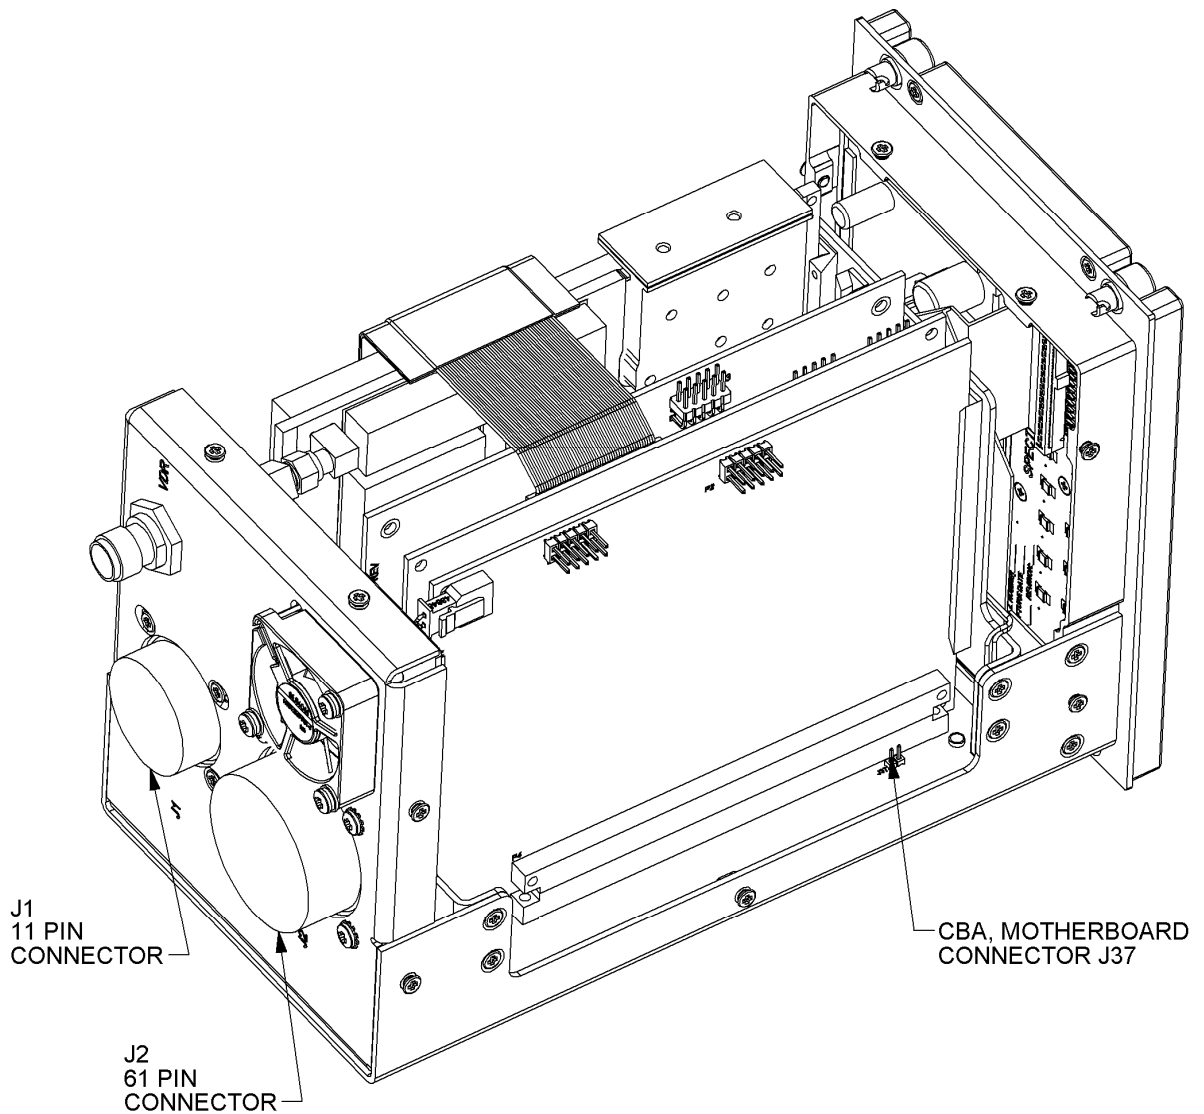
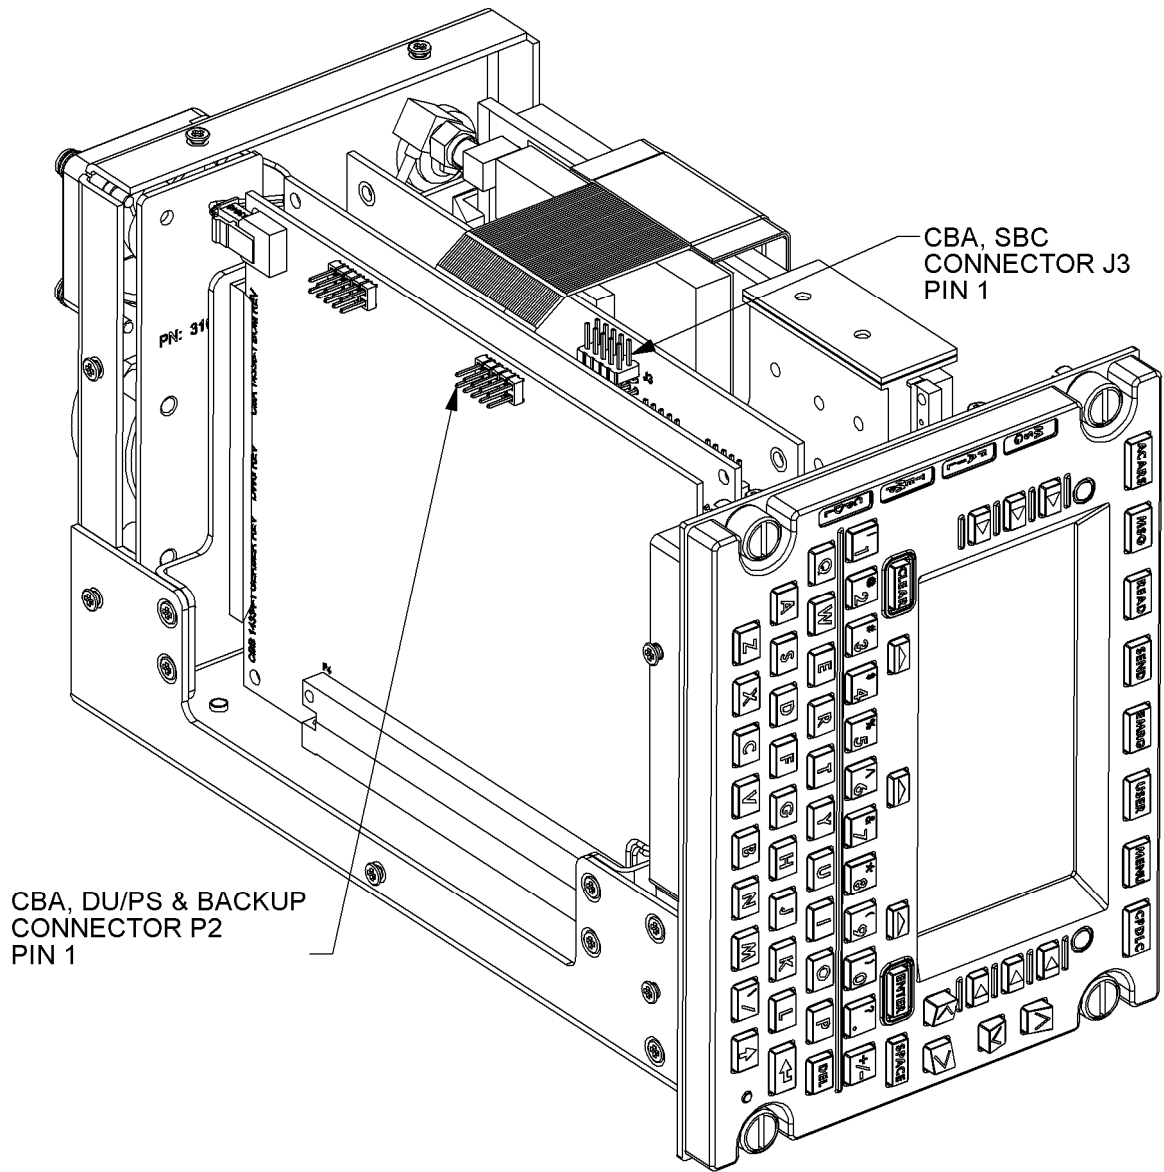

Figure 2. Unit and Shorting Connectors
Figure 3. DU/PS and SBC Programming Connectors
(4) Disable the watchdog by inserting the jumper handle onto J37 on the motherboard. See **Figure 2. Unit and Shorting Connectors.**
- (6) Attach the USB-ML-PPCBDM ribbon cable to J3 on the SBC CBA (circuit board assembly). Install so that the red edge of the ribbon cable is nearer to pin 1. See **Figure 3. DU/PS and SBC Programming Connectors**.
- (7) Enable power.
- (8) Double click the ProgramSBC.exe shortcut in C:\Dlink_Configuration_Loader\Mod2. A programming window will appear showing status. If programming is successful, the following will appear in the programming window. Click Quit.
- (14) Remove the USB-ML-PPCBDM ribbon cable from the IO and attach to P2 on the DU CBA. Install so that the red edge of the ribbon cable is nearer to pin 1. See **Figure 3. DU/PS and SBC Programming Connectors**.
- (15) Enable power.
- (16) Double click the ProgramDU.exe shortcut in C:\Dlink_Configuration_Loader\Mod2. A programming window will appear showing status. If programming is successful, the following will appear in the programming window. Click Quit.
- (17) Disable power.
- (18) Remove the USB-ML-PPCBDM ribbon cable.
- (19) Remove the watchdog jumper handle and confirm that the two pins of J37 are visible and not touching each other. See **Figure 2. Unit and Shorting Connectors**.